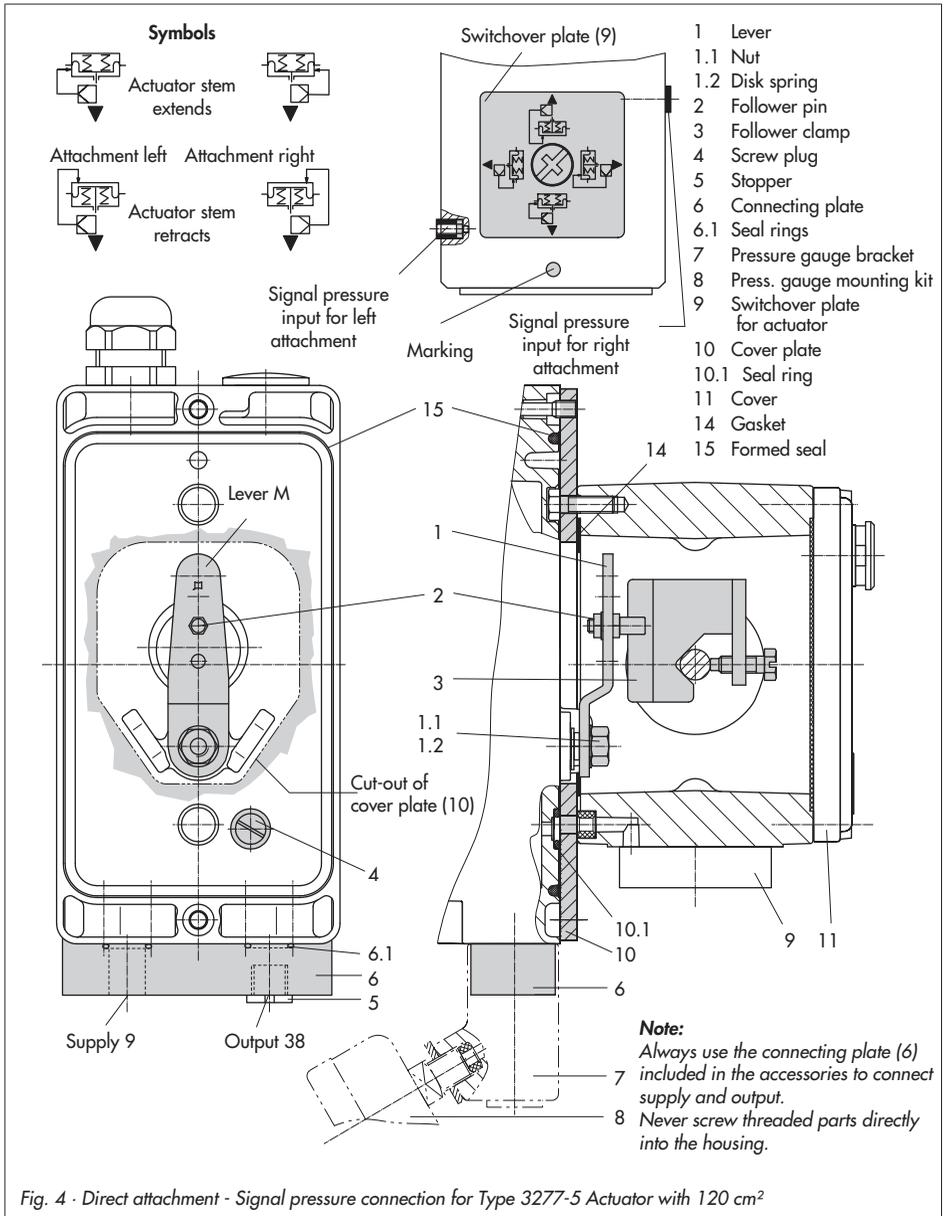

Fig. 4 - Direct attachment - Signal pressure connection for Type 3277-5 Actuator with 120 cm2
1. Mount connecting plate (6) or pressure gauge bracket (7) with pressure gauges onto the positioner, making sure both seal rings (6.1) are seated properly.
2. Remove screw plug (4) on the back of the positioner and close the signal pressure output "Output 38" on the connecting plate (6) or on the pressure gauge bracket (7) with the stopper (5) included in the accessories.
3. Place follower clamp (3) on the actuator stem, align and screw tight so that the mounting screw is located in the groove of the actuator stem.
4. Mount cover plate (10) with narrow side of the cut-out opening (Fig. 4, left) pointing towards the signal pressure connec-